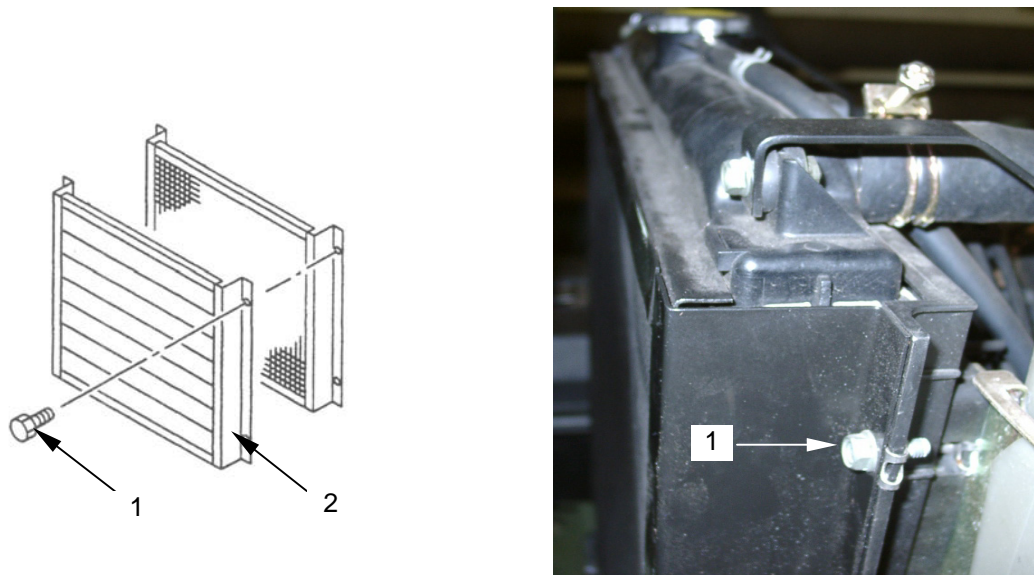

Figure 29. Radiator Cover Mounting Bolts
- h. Loosen and remove radiator cover mounting bolts (**figure 29, item 1**).
- i. Remove radiator cover (**figure 29, item 2**).